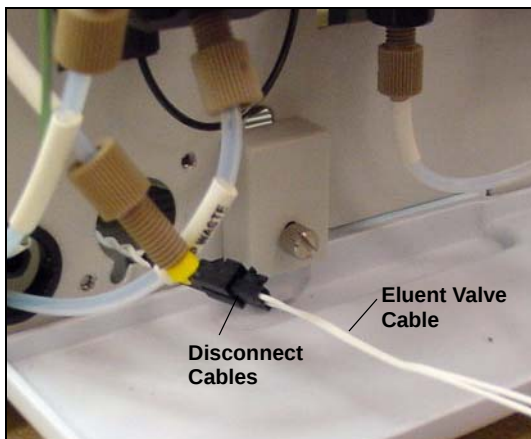

Figure 5-25. Eluent Valve Cable
7. The cable is connected to a matching cable inside the ICS-2000. Continue pulling until the connectors for the two cables are outside the panel (see Figure 5-25). Disconnect the cables.